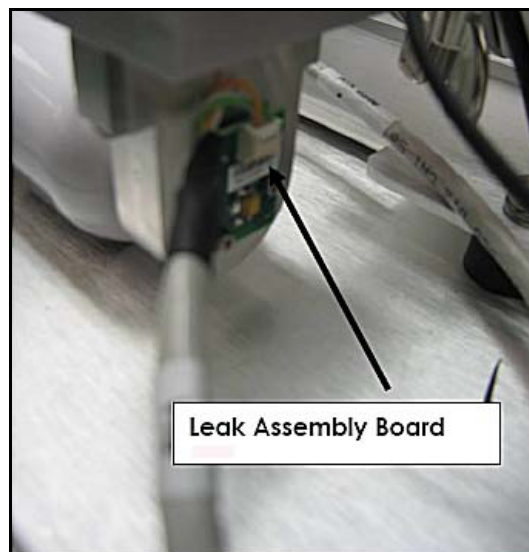

Figure B-45 Leak Assembly Board Connection
9. Connect the calibrated leak temperature cable end labeled P1A to the leak assembly board connector J1A (Figure B-45).